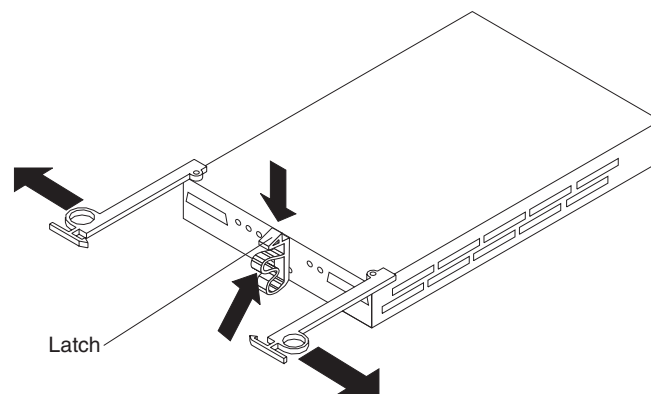

Figure 50. Removing the failed ESM
11. Push down on the ESM latch. While holding down the ESM latch, grasp the pull rings and pull out on the levers to disconnect the ESM from the EXP100 midplane. The ESM levers will pop out of the locked position, as shown in Figure 50.